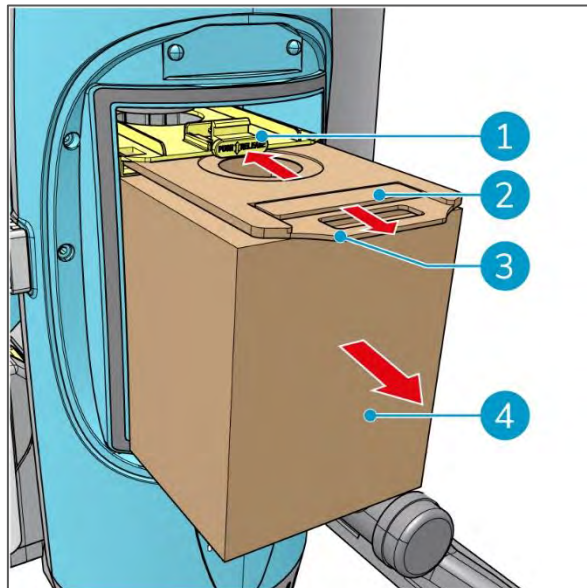

Figure 9
4. Push the yellow button (Figure 9, pos 1) to release the dust bag.
5. Pull the cardboard handle (Figure 9, pos 2) to remove the dust bag (Figure 9, pos 4).
6. Pull the cardboard tag (Figure 9, pos 3) to seal the dust bag.